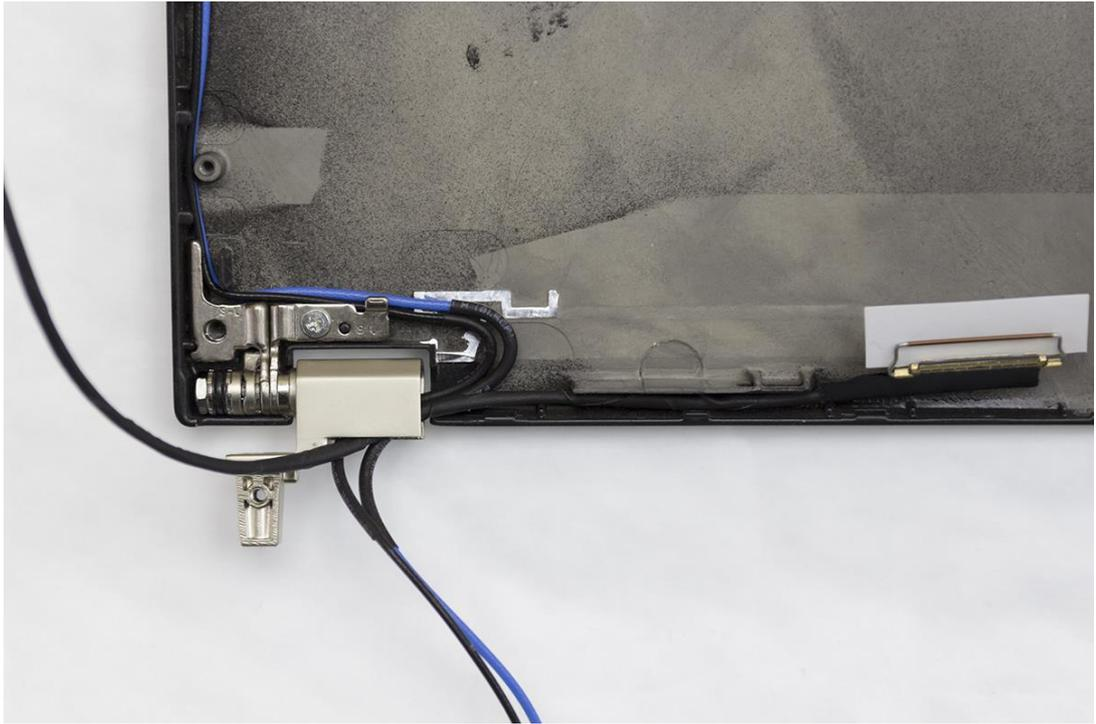

Figure 20. Left hinge
9. Install the hinges (see figures 20 and 21).